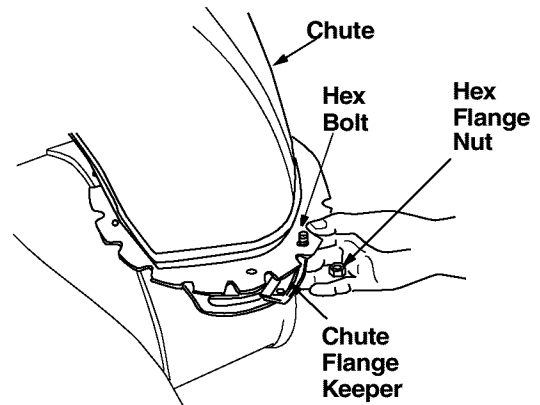

Figure 4
- Place the chute flange keeper (flat side down) beneath lip of chute assembly as shown in Figure 4. You will find the chute flange keepers in group D of the hardware pack.
- Insert hex bolt (1/4-20 x .75") and flange nut from group D up through chute flange keeper and chute assembly as shown in Figure 4. Do not tighten at this time. Rotate chute to install all the flange keepers.